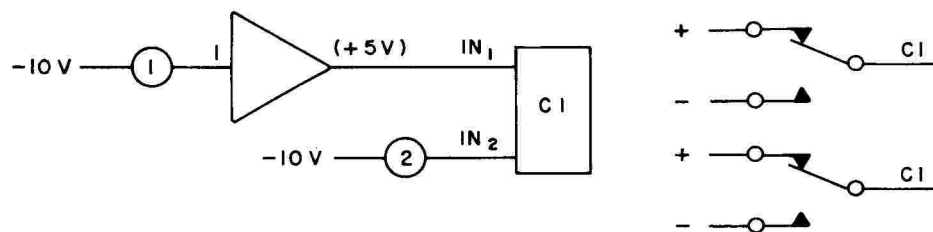

Figure 41. Circuit for Setting Voltage Switching Level
(1) Refer to Figure 41. Connect a coefficient potentiometer to the input of an amplifier and adjust the wiper until the output of the amplifier is at the desired switching level (+5 volts). Connect the output of the amplifier to the IN_1 termination of the comparator.
(2) Connect the appropriate computer reference voltage (-10 vdc in this case) to a second potentiometer. Connect the wiper to the IN_2 termination.
(3) Adjust the wiper of the second potentiometer until switching occurs. Remove the amplifier input to IN_1 and apply any arbitrary input.